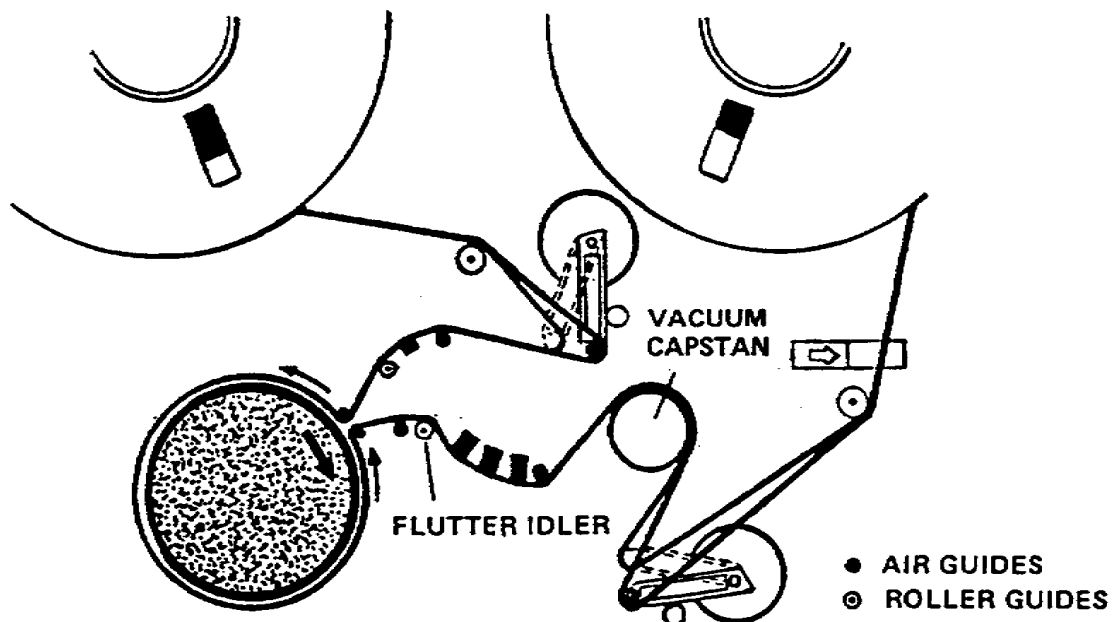

Figure 2-7. Helical scan tape transport, showing points which should be cleaned
1. Just as periodic preventive maintenance can reduce the chance of major equipment failure, so can proper adjustments and preoperational procedures lead to good recordings and playbacks. Make visual checks to see that heads are clean (fig 2-7) and that nothing appears bent or otherwise damaged.